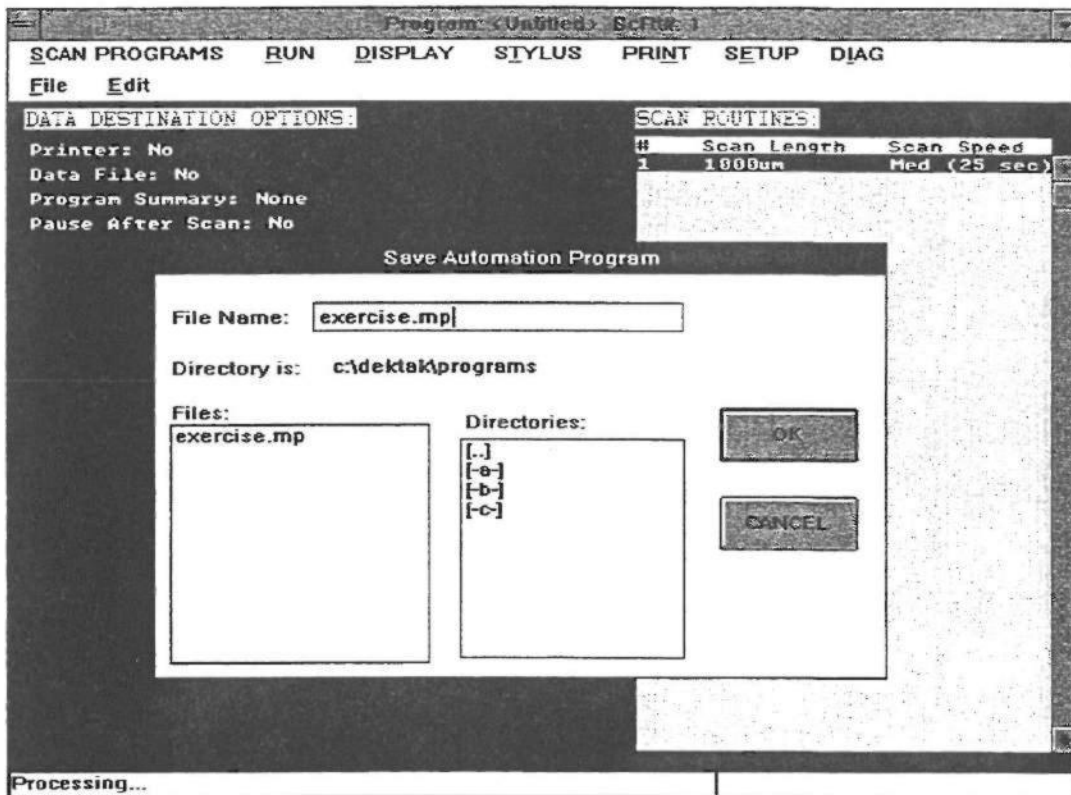

Figure 4-14. Multi-Scan Program File Name
3. Click-on "Save" from the File Menu. A pop-up window is displayed requesting file name under which the multi-scan program is to be saved (see Figure 4-14).